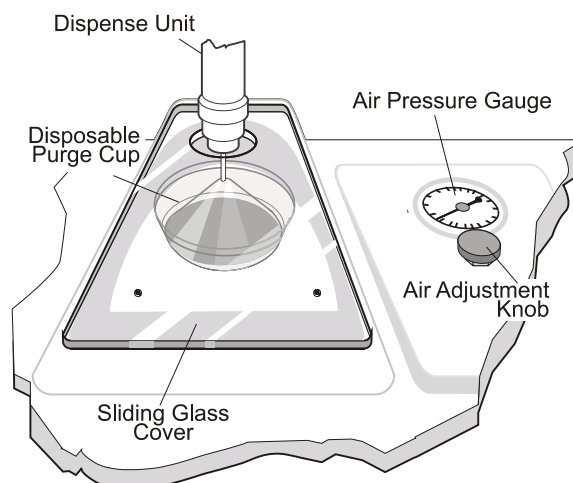

Figure 6-33
4. Using the trackball, move the dispense unit over the sliding glass cover. The needle tip should be positioned over the center of the hole. See Figure 6-33.